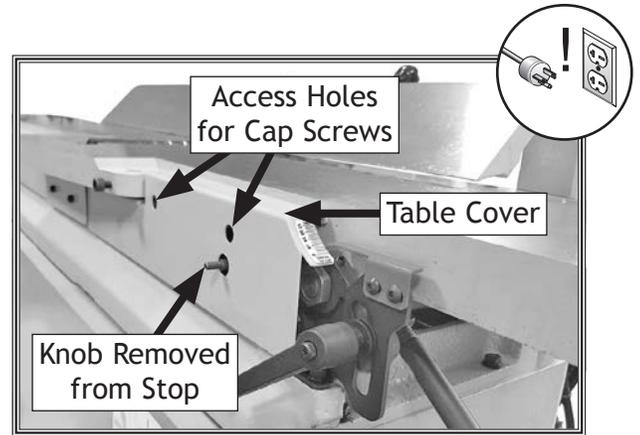

Figure 50. Accessing infeed table stop.
2. Remove table release knob by unthreading it (see **Figure 50**), and then remove infeed table covers (see **Figure 50**) by removing plugs and cap screws that secure covers to table.